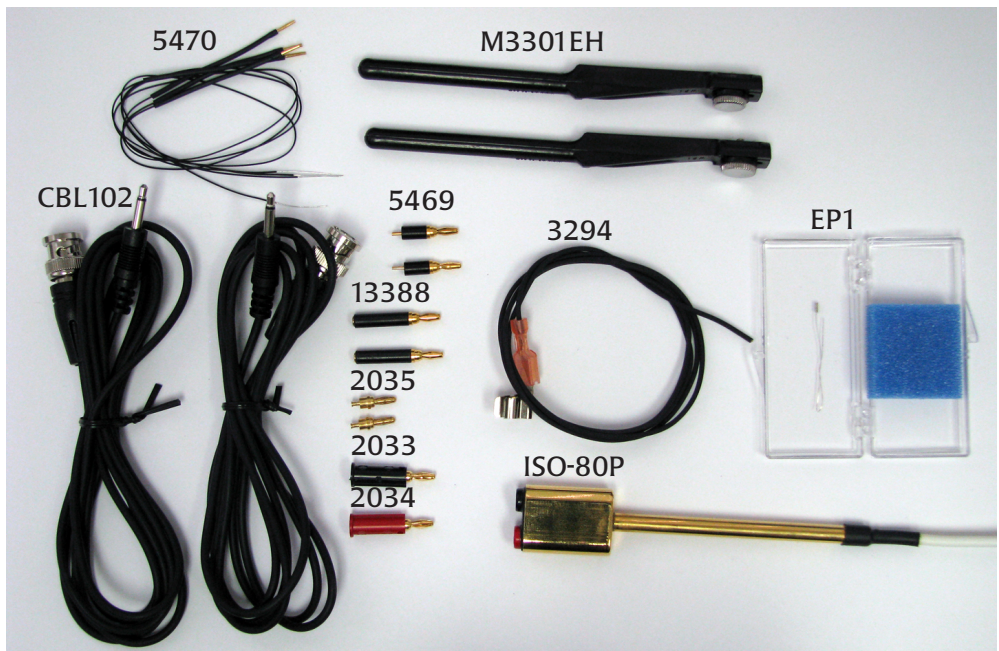

Fig. 3 – ISO-80 Startup Kit
- ISO-80 Startup Kit (pictured in Figure 3) includes:
- (1) pkg. of four 0.031" to wire electrode adapters (#5470)
- (2) 6-foot, BNC to 3.5mm plug cables (#CBL102)
Labeled items on the Figure 3 (ISO-80 face plate) are described below.